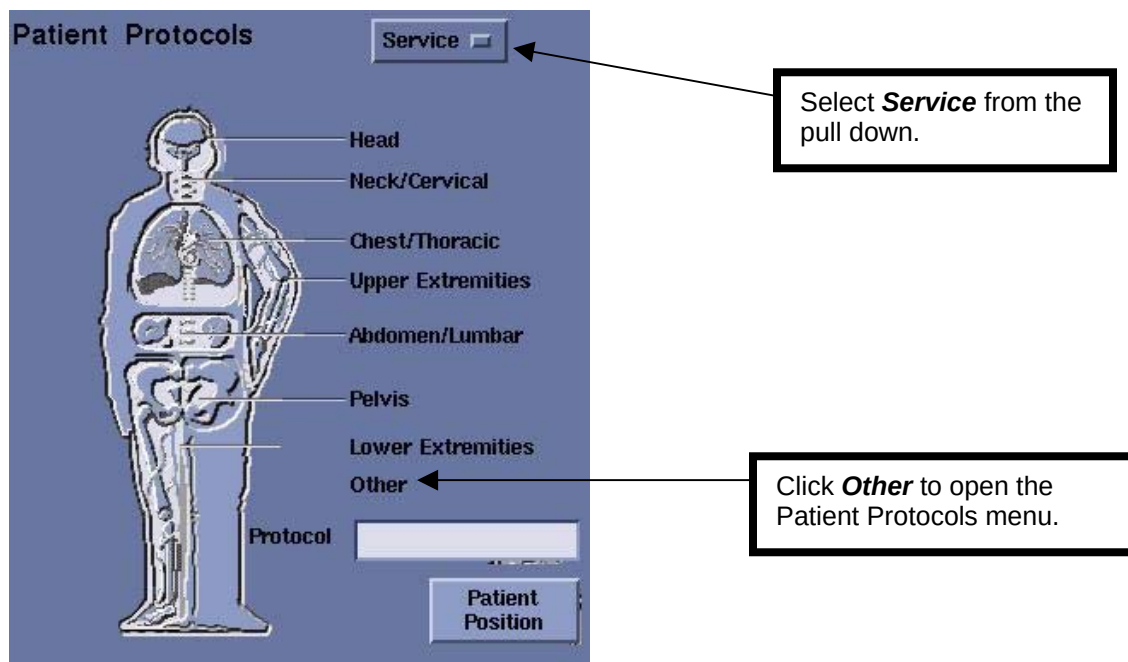
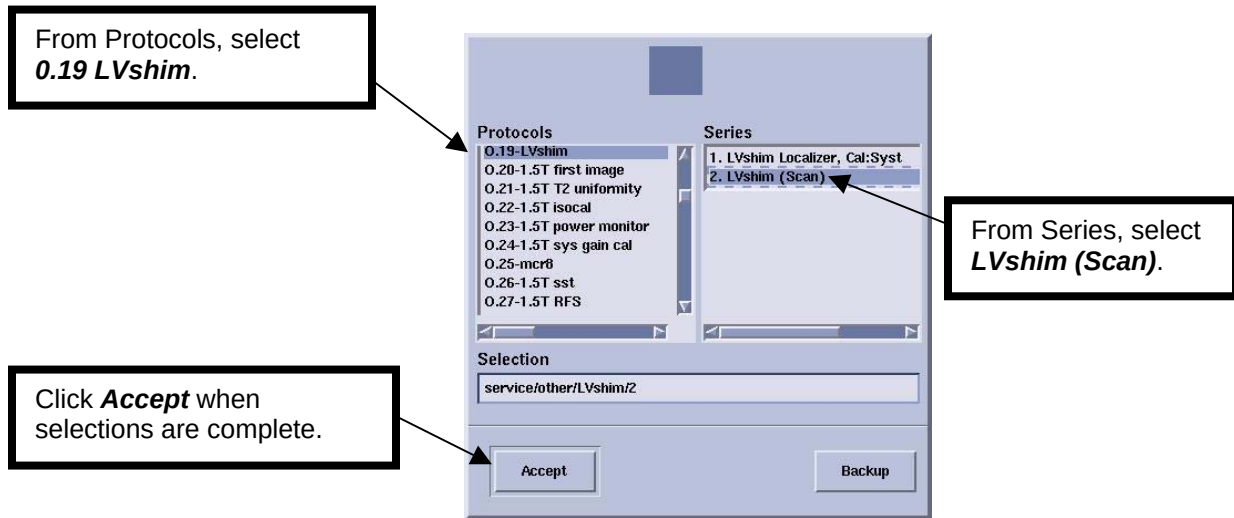

Figure 4
Figure 10
- From the pull-down box in the upper right of the Patient Protocols window, select "Service" shown in Figure 4.
19. Click “Other” in the Patient Protocols window shown in Figure 4. A Protocol selection box (shown in Figure 10) will open.
20. From the Protocol selection box, select “0.19 LVshim” in the Protocols column and “LVshim (Scan)” in the Series column. See Figure 10.
21. Click “Accept” (shown in Figure 10) when the selections are correct and complete.